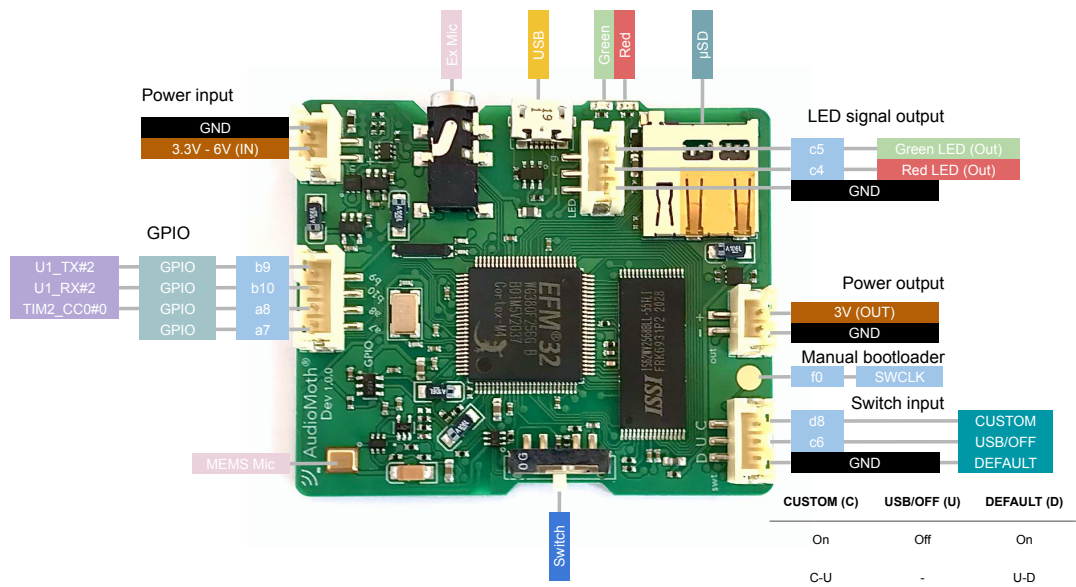

Figure 1: Top layer of AudioMoth Dev
All usable IO pins are exposed on the top layer of the AudioMoth Dev board (See Figure 1). The main usable GPIO pins of the microcontroller are exposed on the left 4-pin JST-PH header. These can be used to communicate with other boards. External red and green LEDs can be driven by the 3-pin JST-PH header in the middle of the board. AudioMoth Dev uses two 3V regulators. One used for digital circuitry and one for analog circuitry. These regulators can run from a wide range of input voltages (3.3V to 6V). A 2-pin JST-PH header is exposed on the left for this power input. This allows flexibility in powering the unit from various sources such as a single Lithium-Ion cell, 3 AA cells in series or a 6V lantern battery. Sourced from the digital regulator, 3V can also be supplied using the other 2-pin JST-PH header, which is exposed on the right side of the board. Configuring and reprogramming AudioMoth Dev can be done using USB and the AudioMoth Configuration App and AudioMoth Flash App desktop apps, respectively.
The bottom right edge JST-PH header can be used to connect an external 3-way switch to AudioMoth Dev (Figure 1). When using an external switch the on-board switch must be in the USB/OFF position. The switch is configured as ON-OFF-ON, where OFF is the middle position (U) (Table 2).
External boards can be powered by the 2-pin JST-PH header on the middle right edge of the AudioMoth Dev board (Figure 1). AudioMoth Dev supplies a regulated 3V supply with a maximum of 100mA current. Approximately 40mA of this current should be reserved for use by AudioMoth Dev, leaving 60mA available to the external board.